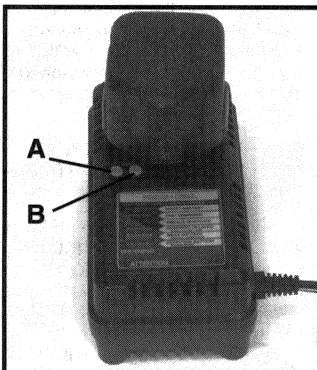

Fig. 1
Make sure power circuit voltage is the same as that shown on the charger specification plate. Connect charger to power source. The green light (A) Fig. 1, should begin to flash. This indicates the charger is ready to begin charging.
Position the battery pack to the charger, aligning the tongue on the battery pack with the slot in the charger. Insert battery pack into charger (see Fig. 1). DO NOT FORCE. If battery pack does not slide in easily, it is being inserted incorrectly: Realign battery pack tongue with charger slot and try again.
The green light (A) Fig. 1, should begin to glow continuously, indicating that the battery pack is receiving a "Fast Charge" (if the green light does not glow continuously, or if the red light (B) Fig. 1, also begins to flash: see DIAGNOSTICS). After approximately one hour, the "Fast Charge" indicator light should go out indicating that the battery pack is fully charged and that the charger is now in a "Trickle Charge" mode. The battery pack can be left on "Trickle Charge" until you are ready to use it.
The Charger is equipped with a diagnostic system that automatically checks the battery pack each time a pack is inserted into the charger. If no problems are found, the charger will automatically switch to "Fast Charge" mode as described in NORMAL CHARGING. If a problem is found, it will be indicated by the charger indicator lights (see Fig. 1), as follows: